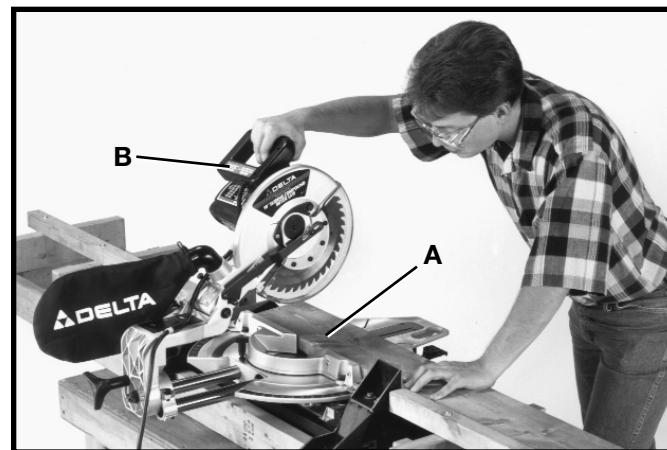

Fig. 73
1. Place the workpiece (A) on the table and against the fence, as shown in Fig. 73. Grasp the cuttinghead handle (B) but do not turn the saw on at this time.